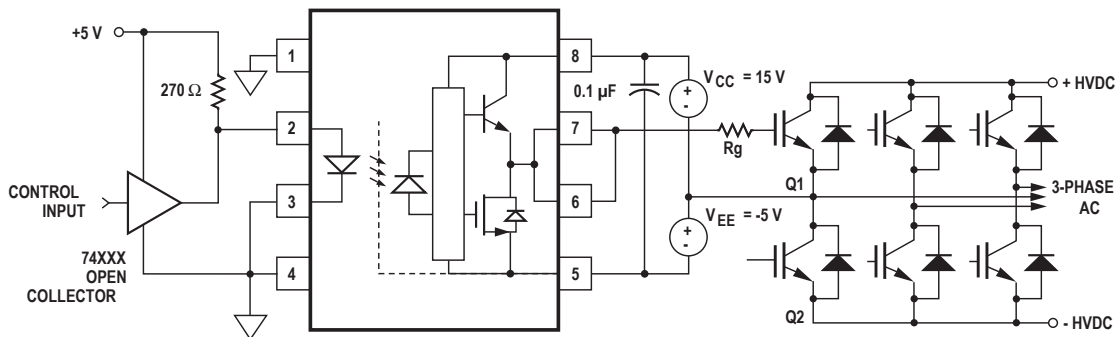

Figure 30. ACPL-3130 Typical Application Circuit with Negative IGBT Gate Drive.
**Step 1: Calculate  $R_g$  minimum from the  $I_{OL}$  peak specification. The IGBT and  $R_g$  in Figure 30 can be analyzed as a simple RC circuit with a voltage supplied by the ACPL-3130.**
For the circuit in Figure 30 with  $I_F$  (worst case) = 16 mA,  $R_g = 8 \Omega$ , Max Duty Cycle = 80%,  $Q_g = 500 \text{ nC}$ ,  $f = 20 \text{ kHz}$  and  $T_A \text{ max} = 85^\circ\text{C}$ :